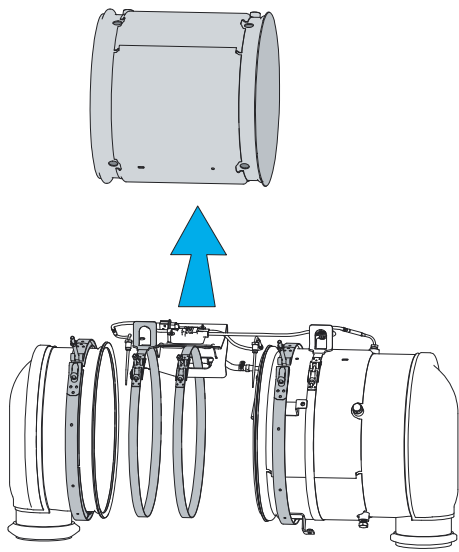

Figure 29 Detaching Diesel Particulate Filter
3. Disconnect the straps securing the DPF. See Figure 29.